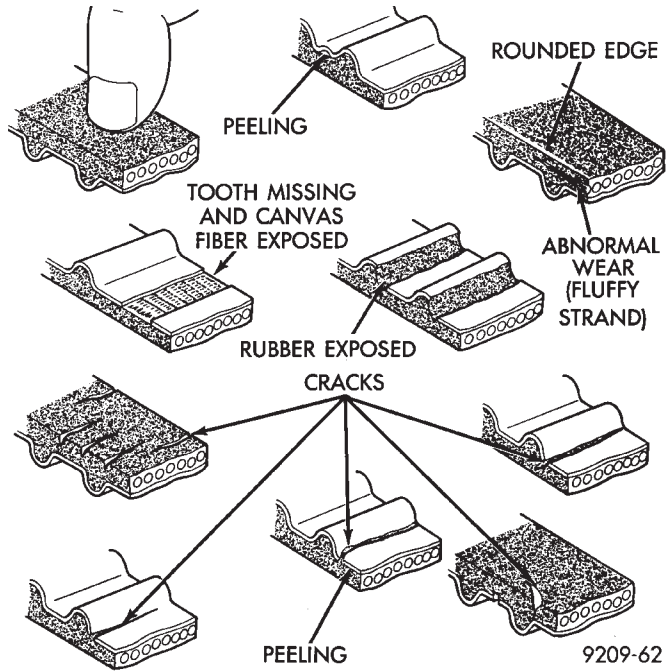

Fig. 12 Timing Belt Inspection
- Abnormal wear of belt sides. The sides are normal if they are sharp as if cut by a knife (Fig. 12).
- (3) If none of the above conditions are seen on the belt, the belt cover can be reinstalled.
(4) Install crankshaft sprocket flange (Fig. 12).